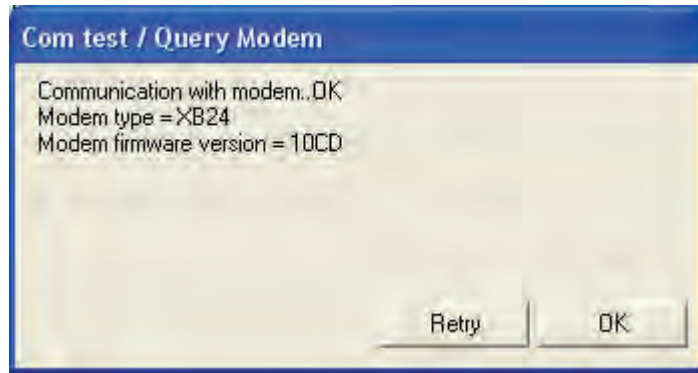

Figure 3-4: X-CTU Test/Query Response
- ✓ Select one and click the Test / Query button. The proper selection will show a response similar to Figure 3-4. The message box shows the type of XBee and the firmware version.